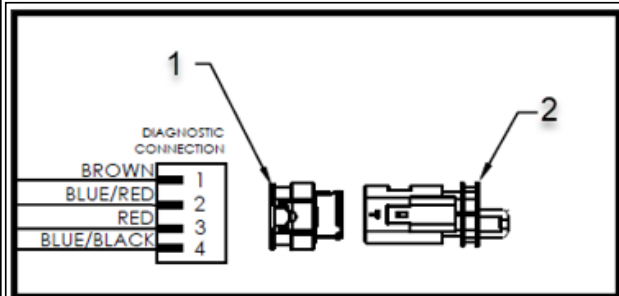

Figure 3: Diagnostic Connector and Terminating Resistor Cap
- The diagnostic connector in the heater cable harness is connected to a terminating resistor cap. The terminating resistor cap must be removed to connect a diagnostic interface cable to the Hydronic S3 Heater (**Figure 3**).